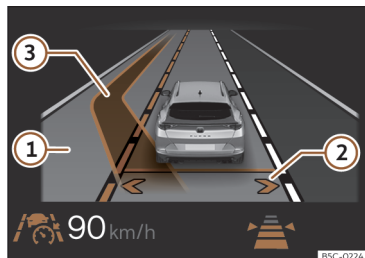

Fig. 148 On the instrument cluster screen: lane change assist display (schematic representation).
This activates the lane assist. The arrows of your own lane on the instrument cluster display are grey >>> **Fig. 148** ②